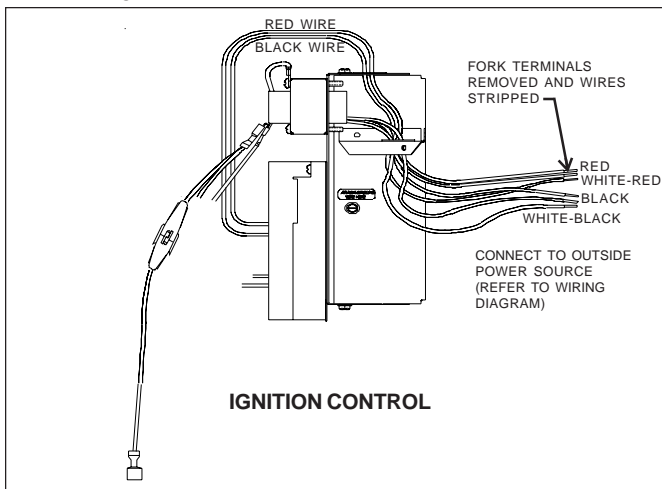

Figure 5. Power supply connections without terminal block.
2. If the power supply wires are connected directly to the outside power source using wire nuts, do the following. (See Figure 5.)